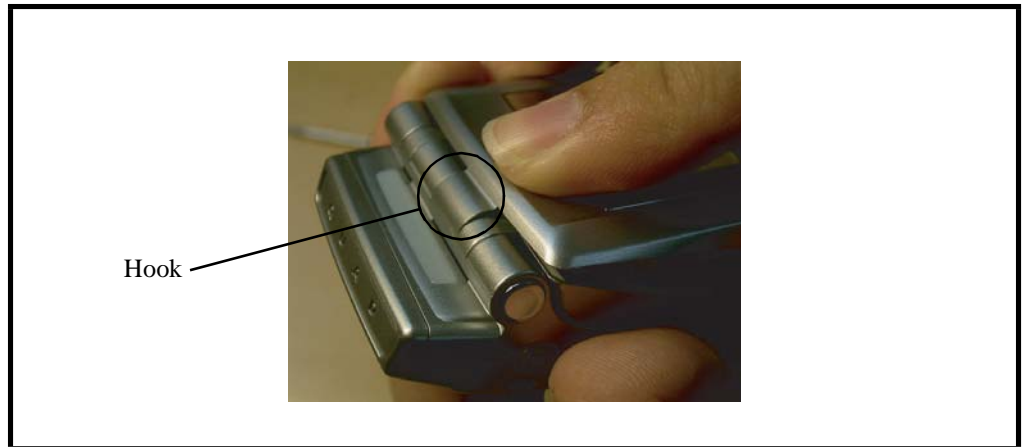

Figure 11. Replacing the Front Housing Cover
5. To replace, align the front housing cover to the front case. Press the front housing cover into place, allowing the hook on its top end to snap into position as shown in Figure 11.